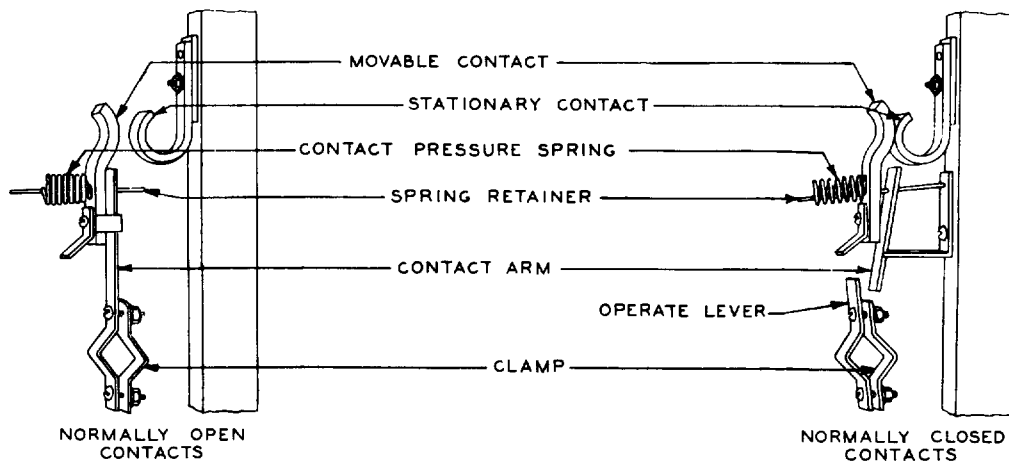

Fig. 7 — Contacts of the CR2810 Hinged-Armature Type Contactors
(1) Where feasible, shape with the pliers a movable contact spring that is slightly bent or out of alignment. Any contact spring that becomes badly bent out of shape should be removed and reshaped or replaced with a new contact spring. Straighten stationary contact supports with the pliers as required.
(2) Where adjustment of alignment by the use of pliers is not feasible, loosen the clamping bolts which hold the contact arm to the shaft to obtain play and move the arm as required. See Fig. 7.
(3) If the above procedures are ineffective, make replacements as required.
(1) Contacts which are carried on contact arms clamped to the shaft may be adjusted by the following procedure. See Fig. 7. Slightly loosen one of the two clamping screws and tighten the other by a similar amount, repeating as required. The selection of which screw to loosen depends upon the direction in which it is desired to move the contact.
(2) Shape the contacts of HG101 control relays with pliers as required.